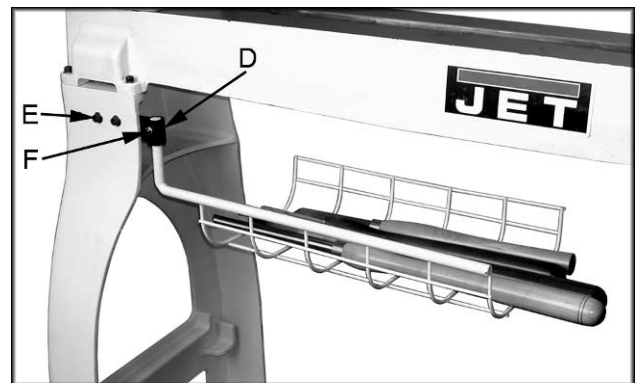

Fig. 4
1. Mount the bracket (D, Fig. 4) to the inside of the lathe leg with two 5/16"-18 x 1-1/2" hex socket cap screws, four 5/16" flat washers and two 5/16" hex nuts (E, Fig. 4).
3. Place the arm of the tool basket into the bracket and secure with a 5/16"-18 x 5/8" set screw and tighten the 5/16" hex nut (F, Fig. 4). Line up the notch in the arm with the setscrew so the tool basket can pivot.